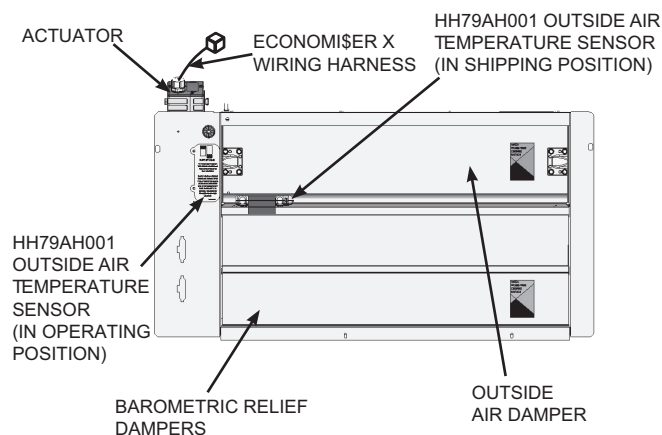

Fig. 1 — EconoMiSer® X Component Locations (CRECOMZR067A01 Shown)
6. Remove the red tape securing the relief dampers for shipping purposes. Relocate the HH79AH001 dry bulb sensor from its shipping location to its operating position; see Fig. 1.
7. If the EconoMiSer X assembly will be operating with an enthalpy outside air sensor, remove the factory-installed HH79AH001 dry bulb sensor from the front face of the economizer (see Fig. 1) and install the accessory enthalpy sensor HH57AC081 in the same location as the dry bulb sensor. Connect the 2-wire gray harness with plug from the EconoMiSer X assembly to the enthalpy sensor. See wiring diagrams on pages 9 and 12. Refer to "Installing Optional HH57AC081 Single Outside Air Enthalpy Sensor" on page 13 for more details on enthalpy settings.